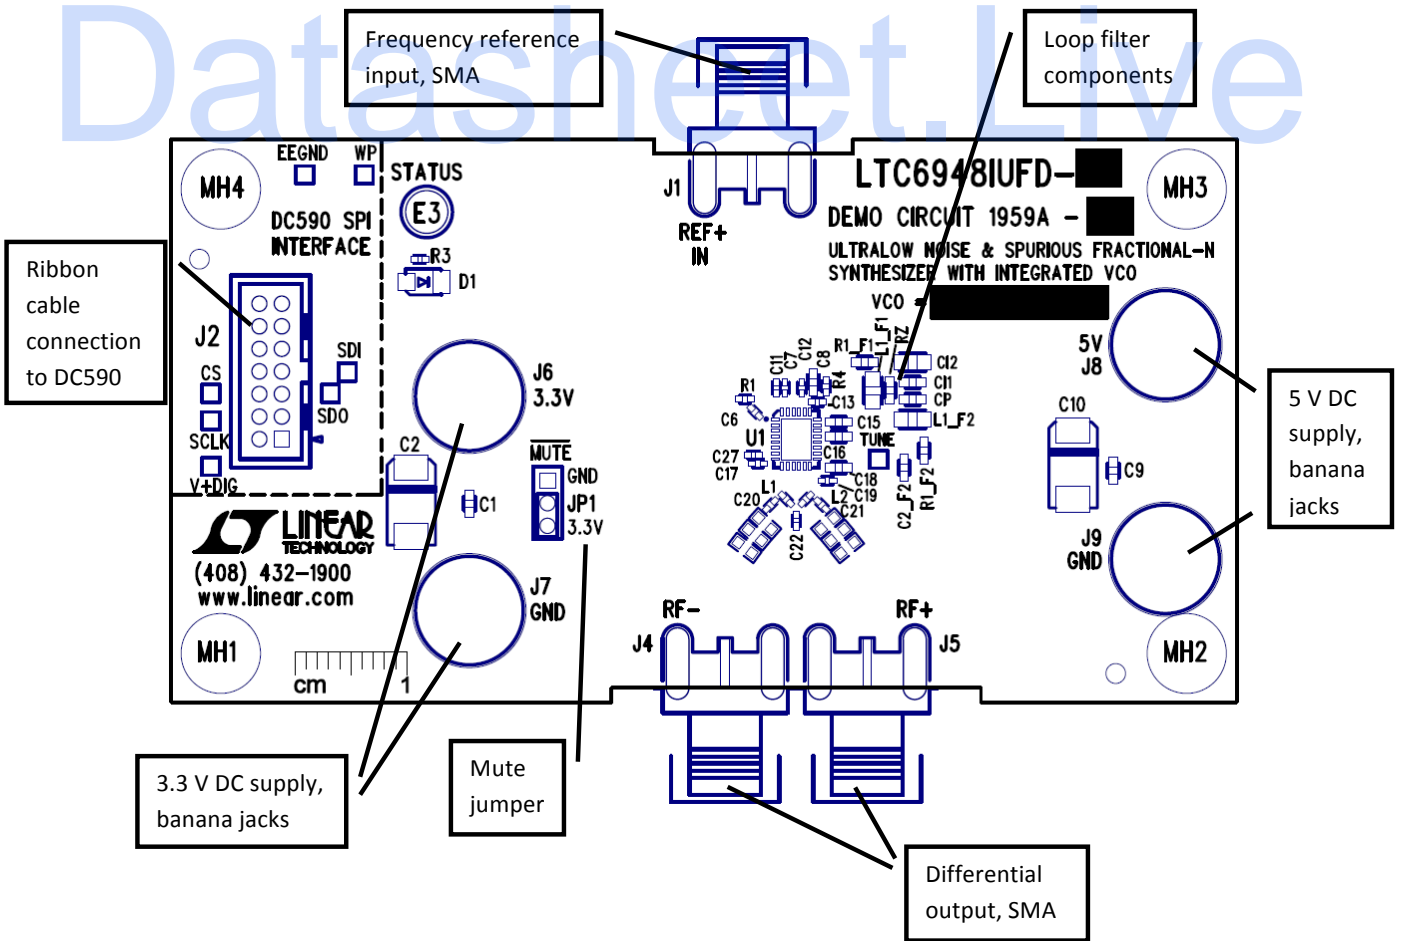

Figure 1. DC1959A Connections
1. Connect a 100MHz reference frequency source to REF+IN (at J1) and signal analyzers to RF+ and/or RF- (at J5 and/or J4) using the SMA connectors (see Figure 1 and the Typical DC1959A Requirements and Characteristics table).
3. Connect the GND, 3.3V, and 5V banana jacks to a power supply and apply power (see Figure 1 and the Typical DC1959A Requirements and Characteristics table).
You can redesign the frequency plan of the DC1959A using FracNWizard. You can change the loop filter as found using FracNWizard by reinstalling the loop filter components shown in Figure 1.